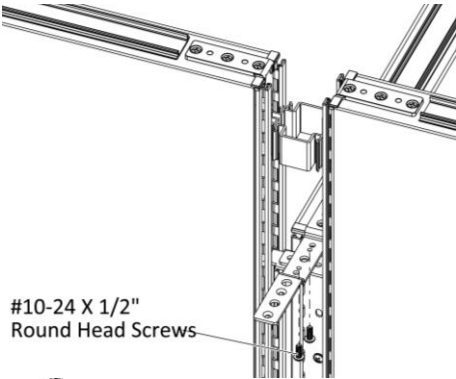

Figure 7
- Securely fasten the connectors with two #10-24 X 1/2" Round Head Screws, (Figure 7).